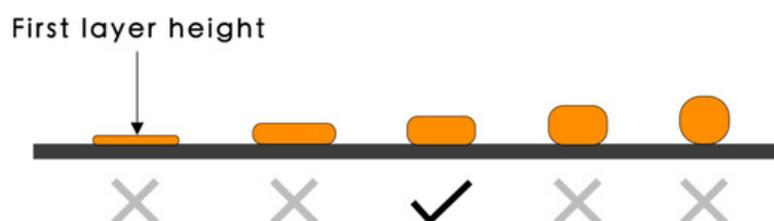

Figure 6. The optimum nozzle height and first layer width.
- Recalibrating the built platform through active levelling or manual levelling. Run through the first layer calibration to adjust the Z-height to get the optimum distance between the nozzle and the first layer as shown in Figure 6 ^{[20][23]}.